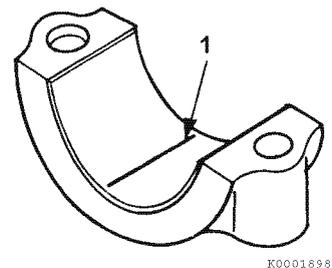

Figure 6-65
- Place a piece of PLASTIGAGE (1, **Figure 6-65**) along the full width of each bearing insert.